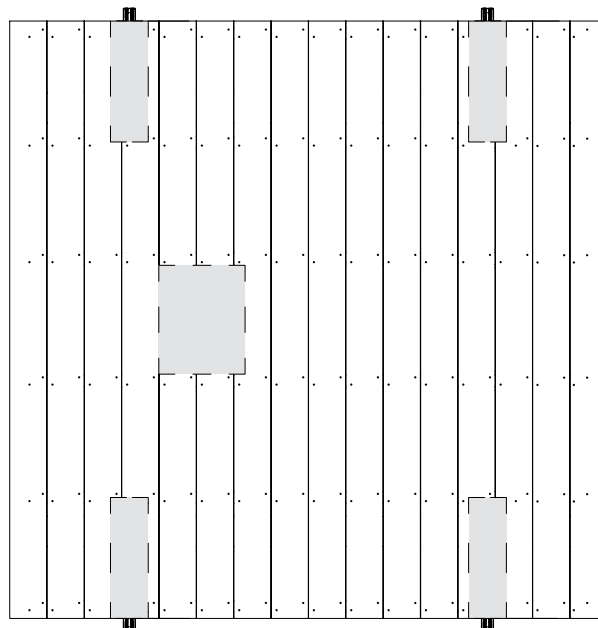

Fig. B2.14
(Fig. B2.14)
- When cutting the planking take into consideration the cut-outs for the hatches. (Fig. B2.14)